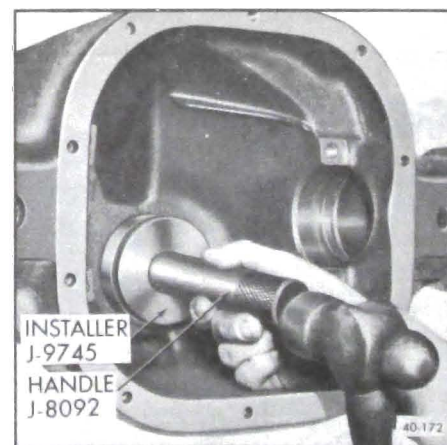

Figure 40-142 Installing Rear Pinion Bearing Outer Race
2. Drive rear pinion bearing outer race against shoulder in carrier using Installer J-9745 with driver handle. See Figure 40-142.